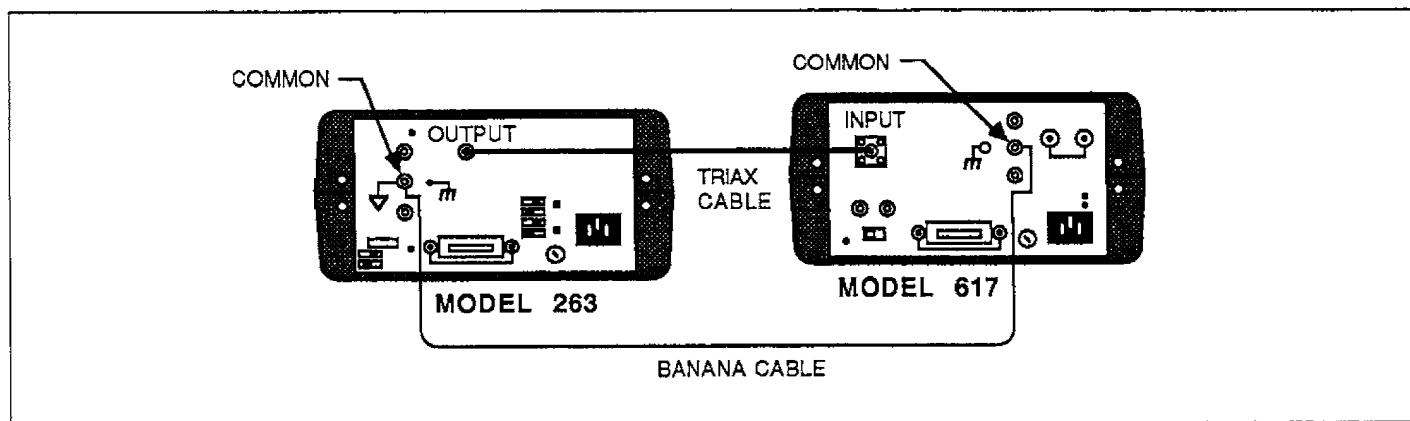
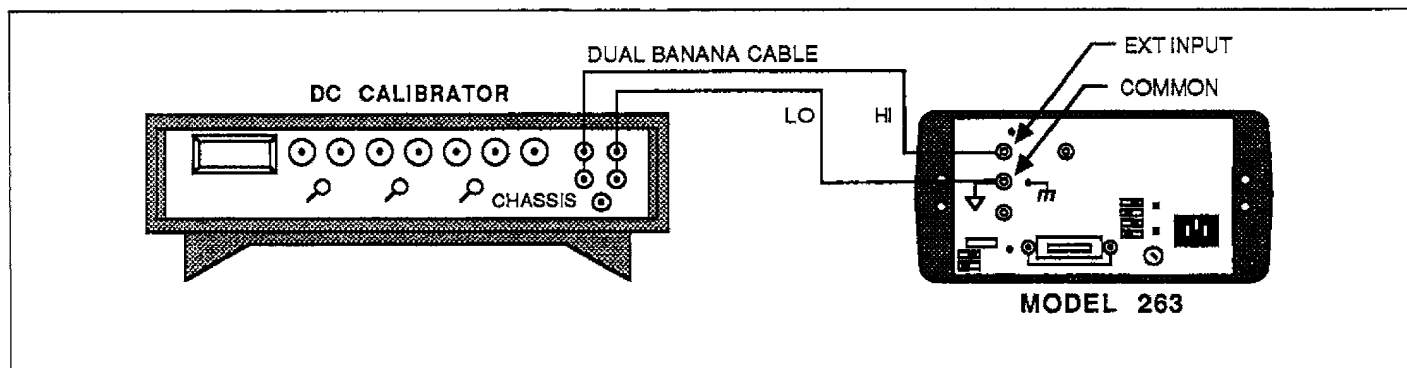

Figure 5-5. Connections for Model 617 Calibration
Figure 5-6. Connections for External Voltage Source
1. Connect the Model 263 Calibrator/Source to the Model 617 as shown in Figure 5-5.
1. Connect the Model 263 to the Model 617 as shown in Figure 5-5.
11. With the Model 343A set to zero volts, connect it to the Model 263 as shown in Figure 5-6.
1. Connect the Model 263 to the Model 617 as shown in Figure 5-5. Note that Model 263 COMMON must be connected to Model 617 COMMON.
20 DISP "CONNECT THE 263 TO THE 617 (FIG 5-5) AND THE EXT V-SOURCE (FIG 5-6). "